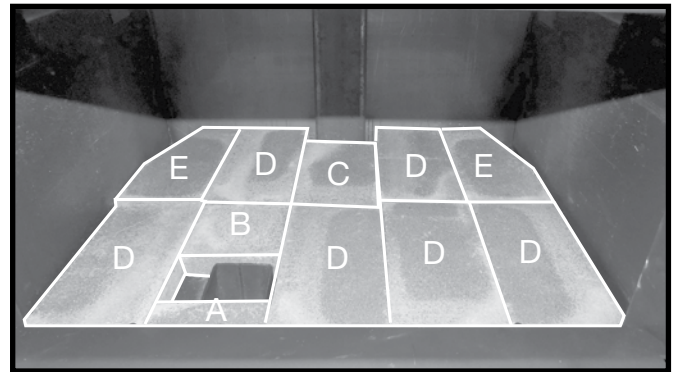

Figure 22: Floor bricks completed.
2. On units with an ash dump, place 4 "D" bricks along the front row; 3 bricks on one side of the ash dump and 1 brick on the other side. Use the "A" and "B" bricks to fill in the area around the ash dump (Figure 22).